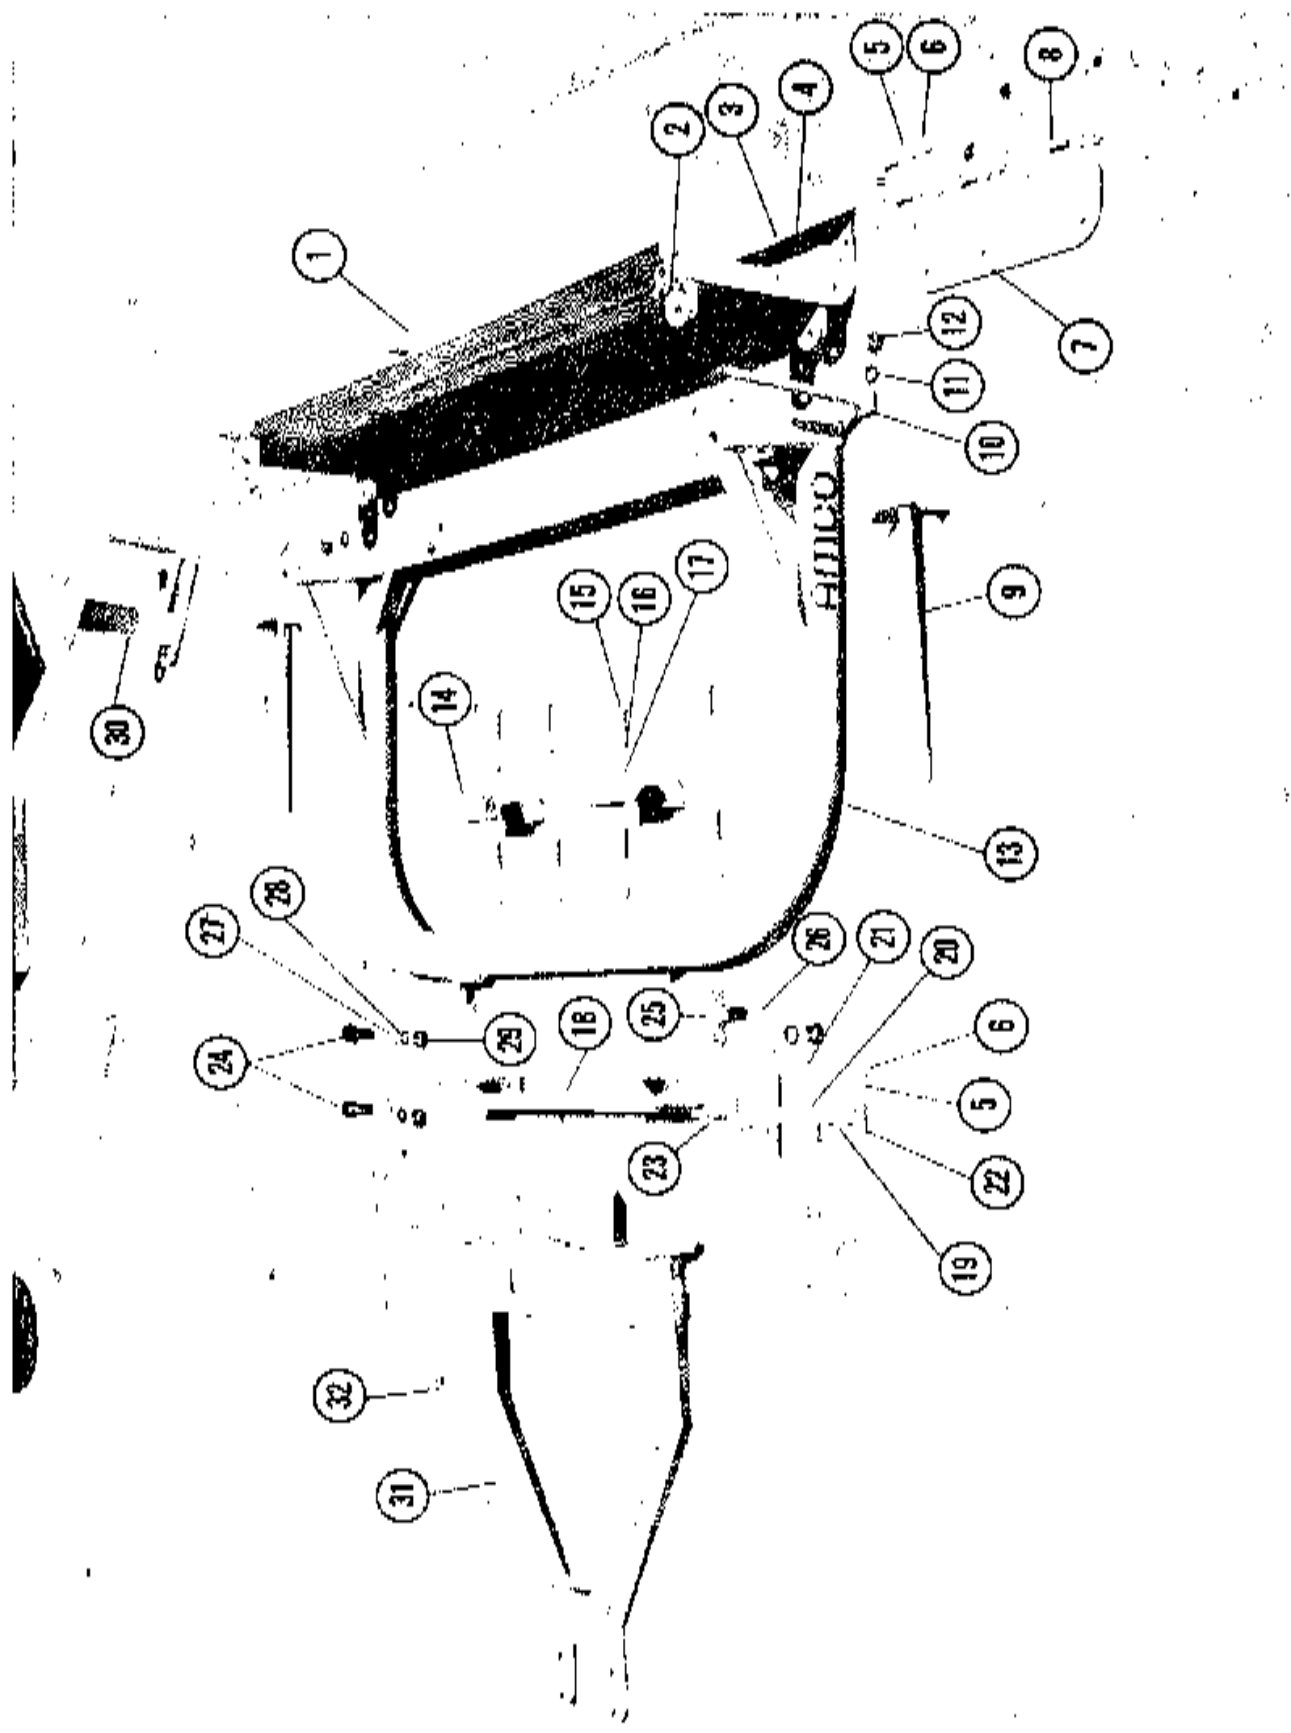

FIG. 1
Drive the tractor's front wheels over the "C" frame (Fig. 1 No. 13). The tractor's front wheels should be inside the "C" frame and the holes in the front mount plates should be over the mounting holes in the dozer carriage frame (Fig. 1 No. 34). Lift the front of the carriage frame and insert one 5/8" diameter carriage bolt through the front mount plate and carriage frame mounting plate. Repeat this procedure by placing a bolt through the mount plate and carriage frame mounting plate on the opposite side of the tractor. Tighten the two bolts hand tight.
Insert five 5/8" diameter carriage bolts through the left front mount plate and the carriage frame mounting plate and tighten these bolts hand tight. Repeat this procedure on the right side but be sure and mount the adjusting leg anchor (Fig. 1 No. 23) on the two bolts near the upper rear portion of the right front mount plate. The adjusting leg and guide sleeve (Fig. 1 No. 19, 20) should now be mounted on the right front of the carriage frame (Fig. 1 No. 34).
After the dozer has been mounted on the tractor, the dozer can be disassembled at the bearing caps (Fig. 1 No. 14). The carriage frame can be left on the tractor and the tractor can be used for other jobs.
The cutting depth of the dozer is regulated by the hydraulic cylinder. In addition to the hydraulic cylinder, the AMCO Model No. 800 Farm Tractor Dozer has a set of two depth gauges (Fig. 1 No. 9) as standard equipment. These depth gauges can be used to keep the dozer from going too deep at the beginning of a cut. Also, the depth gauges can be used when scraping a feed lot or on many other dozing jobs.
The height of the depth gauge is regulated by loosening the set screws at the upper outside corners of the moldboard (Fig. 1 No. 2) sliding the depth gauge to the desired setting and tightening the set screws.
The AMCO Model No. 800 Farm Tractor Dozer Blade can be tilted about eight inches to the right or left. Before tilting the dozer, loosen the 1-3/8" diameter slide bolt on the right front corner of the carriage frame (Fig. 1 No. 25) then loosen the two pivot bolts on the left front corner of the carriage frame (Fig. 1 No. 24). Tilt the blade with the screw jack, located on the right side of the bearing journal (Fig. 1 No. 19 & 20).
### III. Angle Bracket: (Fig. 1 No. 33)
The bracket can be used to angle the dozer to the right or left. To mount the bracket, lift the dozer to the highest position. Remove the bolt that holds the moldboard to the "C" frame on the side you wish to mount the bracket (Fig. 1 No. 10). Loosen the set screws that hold the depth gauge in place (Fig. 1 No. 2). Swing the moldboard out from the "C" frame and remove the depth gauge (Fig. 1 No. 9). Place the angle bracket between the mounting lugs on the moldboard and replace the depth gauge sliding it up through the holes in the angle bracket. Mount the other end of the bracket to the "C" frame with the anchor bolt (Fig. 1 No. 10).
### IV. Dozer Blade End Plates: (Fig. 1 No. 7)
### V. Transport Bar: (Fig. 1 No. 30)
- I. Grease the two bearing caps (Fig. 1 No. 14) with a good grade of pressure gun or chassis grease before using the dozer. The bearings should then be greased every day or after every 10 hours of operation.
#### **Brush Rack (Fig. 1 B)**
The brush rack (Fig. 1 B) was designed to mount on your AMCO Farm Tractor Dozer's moldboard. This rack was designed to protect your tractor and operator from brush and trash. This rack will also aid in piling brush or trash.